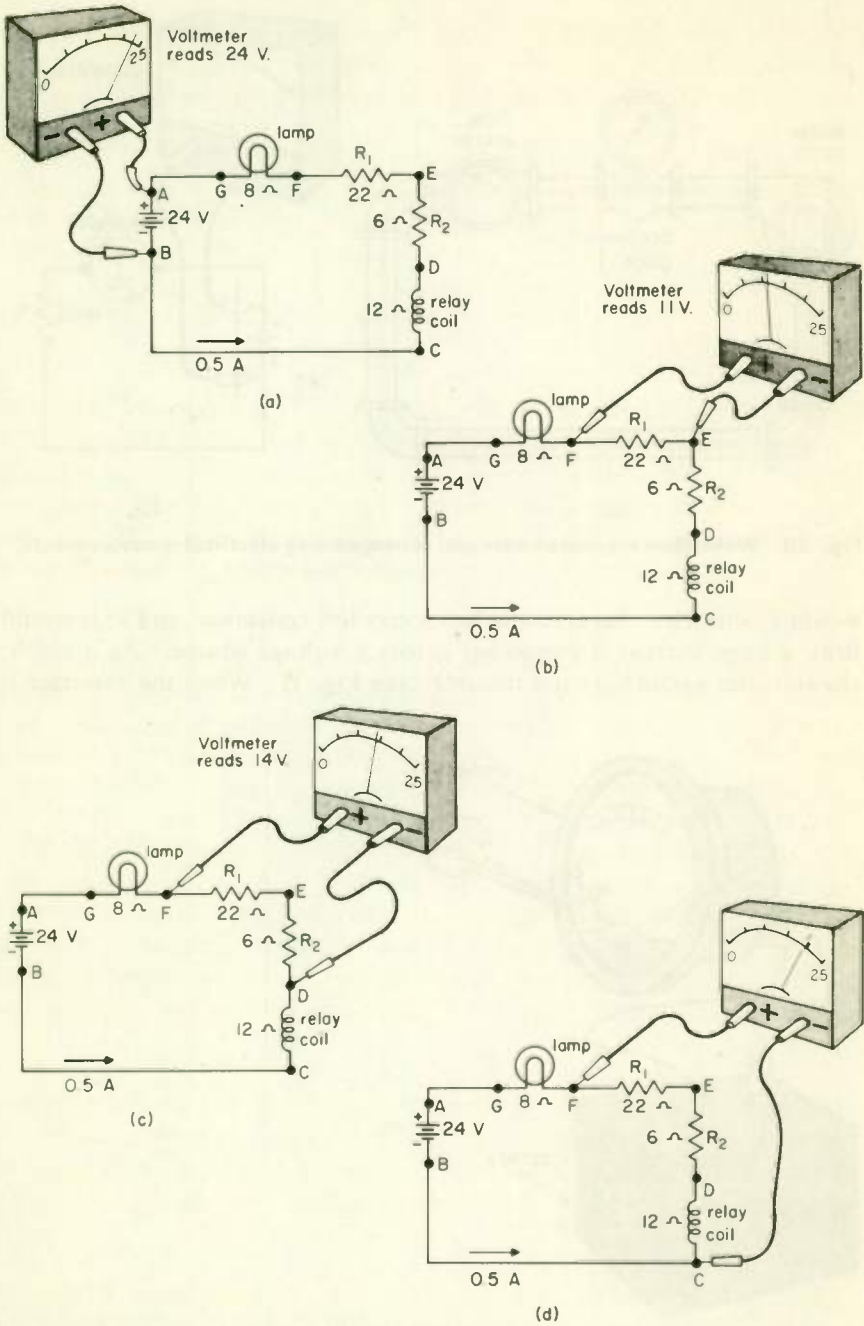
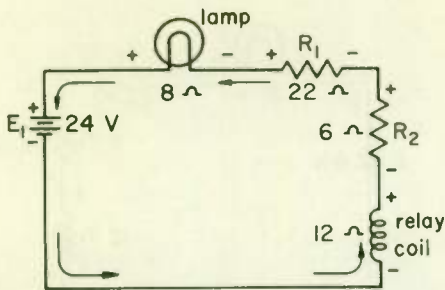
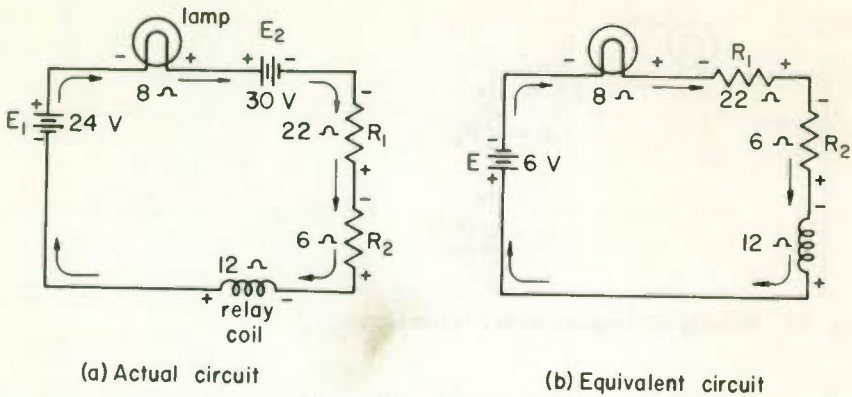

Fig. 32 Although there is only one voltage source, many different voltages exist in this circuit.
Fig. 35 Polarity of components in a series circuit.
Fig. 36 When voltage sources buck, polarity of the higher active voltage determines the current direction.
10 A RESISTOR CAN HAVE A VOLTAGE . . . A voltmeter connected across the power source in a circuit, such as the battery of Fig. 32(a), reads the voltage of that source. What may be more surprising is that a circuit component that is not generating electricity can also have a voltage. For example, if the voltmeter is connected across R_1 , as in part (b) of the figure, it will read 11 V, although the resistor is obviously not a source of power.
This brings us again to the idea of an equivalent circuit. The resistor R_1 in Fig. 32(b) is equivalent to an 11-V battery, because the voltmeter reading is the same as it would be if we replaced R_1 with an 11-V battery. The lamp, the relay, and R_2 also have voltages across them, and therefore can be looked at as equivalent voltage sources.
The voltmeter in Fig. 32(c) is connected to points F and D , and therefore it measures the voltage across R_1 and R_2 in series. Since resistances in series add, the R_1 - R_2 combination is equivalent to a single resistor of 28Ω connected between F and D in place of R_1 and R_2 . By Ohm's law the voltmeter will read $E = I \times R = 0.5 \text{ A} \times 28 \Omega = 14 \text{ V}$.
2. The voltmeter in Fig. 32(d) reads 20 volts.
3. If the voltmeter leads in Fig. 32 are connected to points D and E , the voltmeter will read 3 volts.
5. The voltage across the lamp in Fig. 32 is 4 volts.
6. If the voltmeter is connected to points *B* and *C*, Fig. 32, it will read 0 volts.
7. Add the voltages found across each of the four components in Fig. 32. Is the sum equal to the battery voltage? yes.
The polarity of the voltages connected with a series circuit, so far ignored, will now be considered. D-c voltmeters always have their leads marked (+) and (-). To read the voltage of a battery (or other voltage source) the (+) lead of the voltmeter must connect to the positive battery terminal and the negative lead to the negative terminal, as in Fig. 32(a). If the voltmeter is connected with the leads reversed, the meter needle will try to swing backwards—which it can't do—and no meter reading will be obtained. When using a voltmeter, you can determine the polarity of any circuit voltage. Connect the voltmeter, and if no reading is obtained, reverse the leads. When a reading is obtained, the (+) and (-) markings on the meter indicate the polarity of the voltage being measured.
In Fig. 32(b) the polarity of the voltage across R_1 is left end positive and right end negative, as determined at once by merely looking at the voltmeter. The polarity of the voltage between points F and D in Fig. 32(c) is point F positive with respect to point D , which is negative.
You don't have to use a voltmeter to find the polarity of the voltages across the components in Fig. 32. Just notice which way the current flows through the components. *The current always enters a passive component at the negative terminal and leaves at the positive terminal.* A passive component is one that is not actually a voltage source, although it may have a voltage across it and therefore be equivalent to a voltage source. A resistor is an example of a passive component. The lamp, the relay coil, R_1 , and R_2 are passive components in Fig. 35. The current enters the relay coil at the bottom and leaves at the top. Therefore, the bottom of the coil is negative with respect to the top, as marked in the drawing. Similarly, the polarities of the lamp and R_1 and R_2 are as marked.
An active component is one that directly supplies operating power to the circuit. Batteries, generators, power supplies, and wall outlets are examples of active components. There would be no current in Fig. 35 if it weren't for the battery. Hence, the battery is an active component and all the other components (which would have no voltages of their own if it
Since an active component is a voltage source, it has its own polarity determined by its design, and its polarity, unlike the polarity of a passive device, does not depend on the direction of current flow. Whereas it is the current direction that determines the polarity of a passive device, it is the polarity of an active device that determines the current direction. If there is only one active component in the circuit, the current direction, as you have previously learned, is from the negative terminal through the rest of the circuit and back to the positive terminal, as shown in Fig. 35.
If there is more than one active circuit component, the current doesn't always flow in the direction indicated in the preceding paragraph. In Fig. 36(a) an additional battery E_2 has been added to the circuit. Battery E_2 is pushing the current clockwise around the circuit, while E_1 is pushing in the opposite direction. The higher voltage, of course, wins out in this tug of war, so that the current direction is as shown. Although the current through E_1 is opposite in direction to that of Fig. 35, the battery polarity does not change.
The result of active voltage E_1 in Fig. 36(a) "bucking" active voltage E_2 is a net voltage of $30\text{ V} - 24\text{ V} = 6\text{ V}$. Hence, the circuit of Fig. 36(a) can be simplified by replacing the two batteries with a single equivalent voltage source of 6 V , E in Fig. 36(b).
If we were to reverse the polarity of E_1 in Fig. 36(a), the two battery voltages would add. Then the voltage of the equivalent battery E in Fig. 36(b) would be $30\text{ V} + 24\text{ V} = 54\text{ V}$. You can easily tell if the voltages of two active components add or subtract. Just note which way each active voltage is trying to push the current. If both voltages are pushing in the same direction, the two voltages add. Another way to tell is to remember that, for the voltages to add, the positive terminal of one cell must be
connected to the negative terminal of the other cell. In making this check ignore all passive components between the terminals. For example, in Fig. 36(a) notice that the (+) terminal of E_1 connects to the (+) terminal of E_2 (pay no attention to the lamp in between). Hence, the two cells are bucking each other.